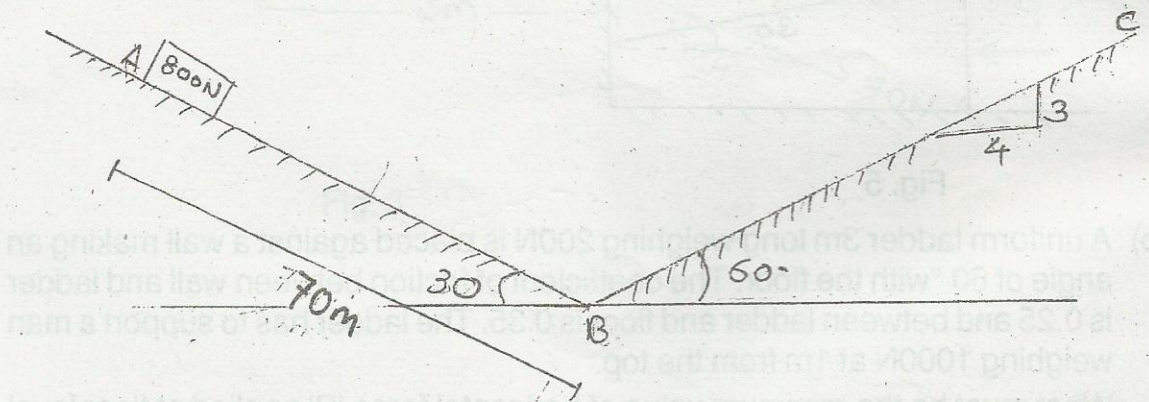

Fig. 7
7. a) A 800N body moves along two inclines for which the coefficient of friction is 0.2. If the body starts from rest at A and slides 70m down the 30° incline, how far will it then move along the other incline? What will be the velocity when it returns to B? Refer fig. 7.